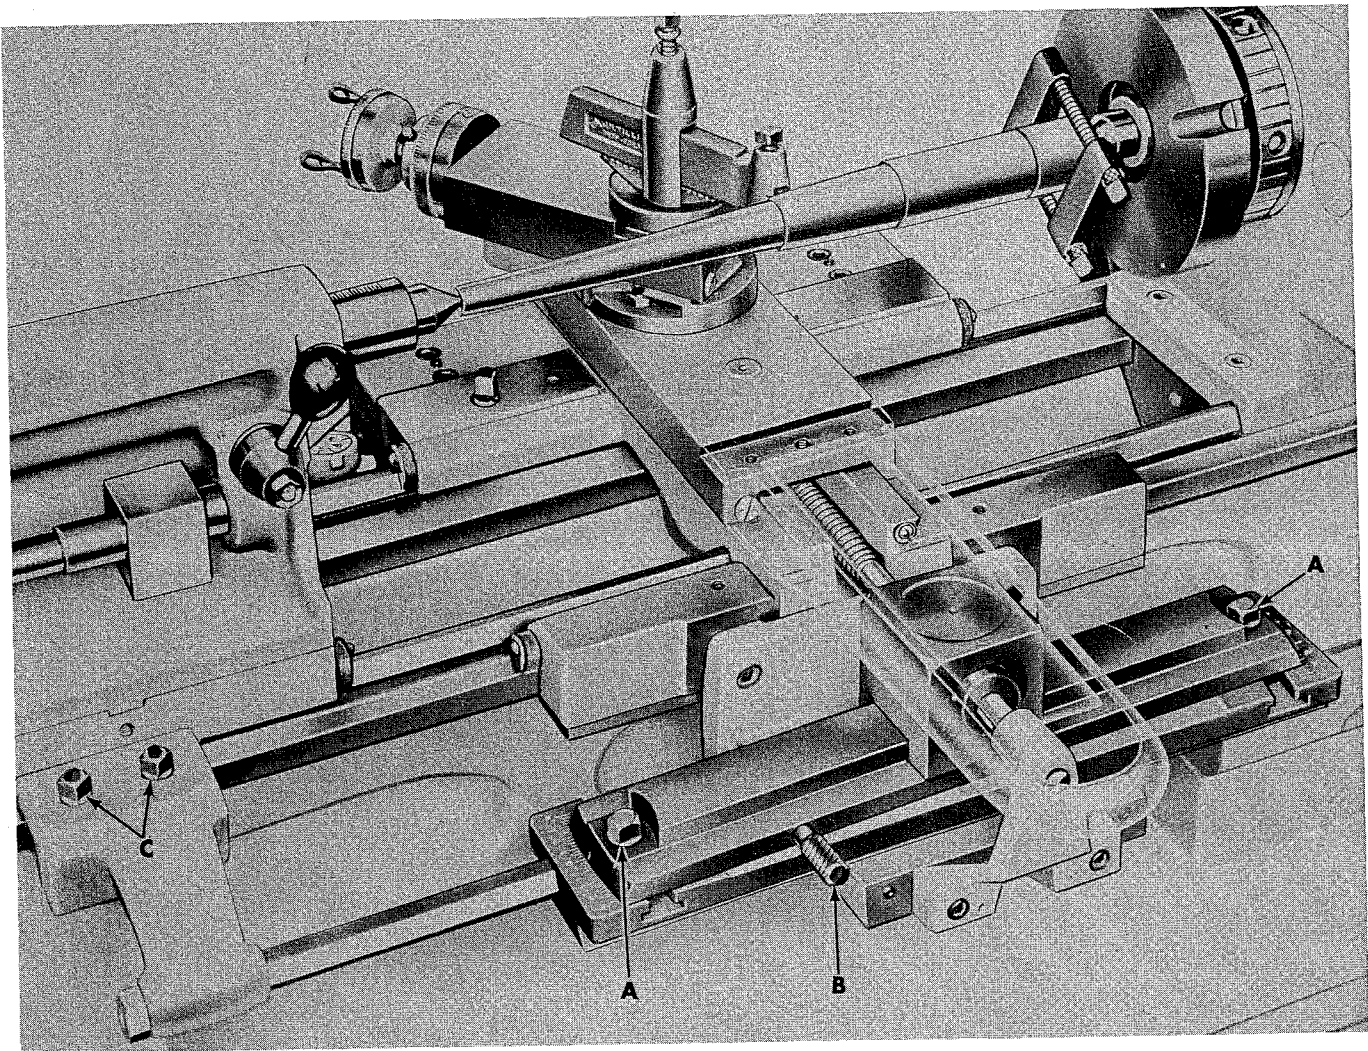

Figure 28
- A. Loosen the two lock screws (A, fig. 28) on each end of taper bar.
- B. Turn taper adjusting screw (B) to taper de-sired.
- C. Tighten the two taper bar lock screws (A).
- D. Be sure clamp bracket (C) is locked to lathe bed.